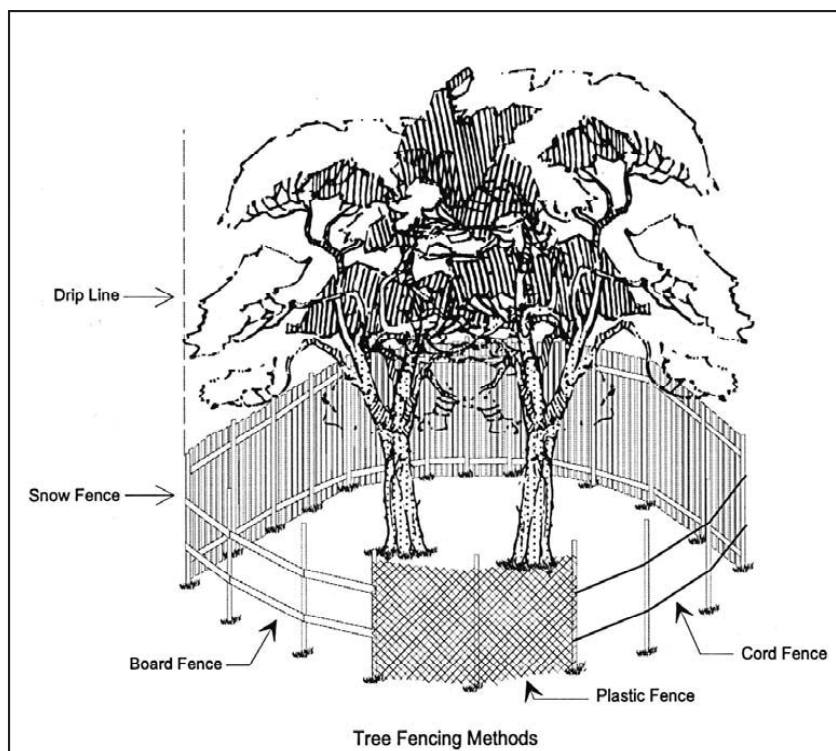

Figure 6.8 Erecting Barriers for Tree Protection Source: Adapted from MU Guide 6885
- Install temporary fences at tree driplines (at the critical root radius for sensitive tree species). To avoid compaction of the soil around desired trees, keep traffic, equipment and supplies off of the root systems. Figure 6.8 shows the correct method of erecting barriers for tree protection.